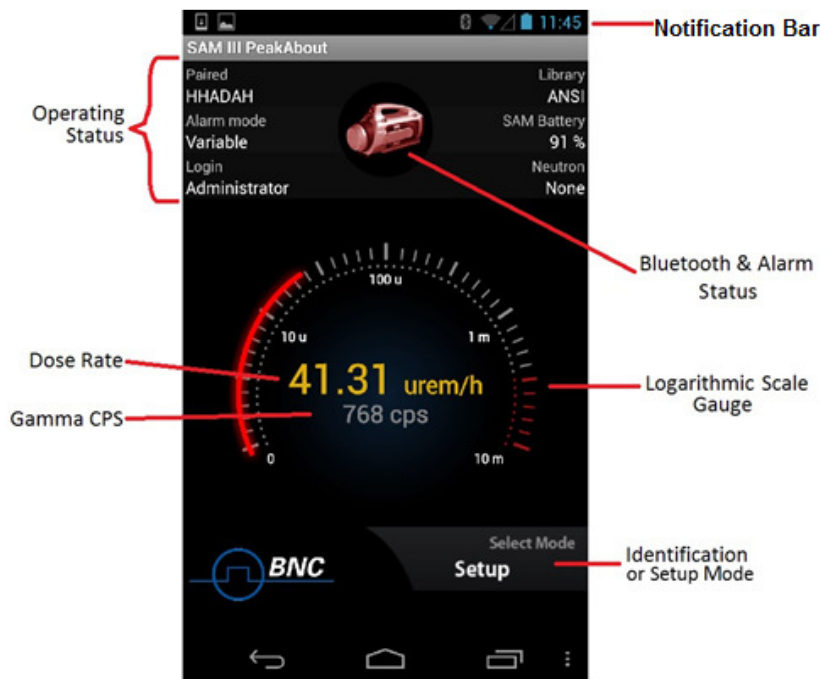

Figure 4.14. Radiation measurement example
1. On the home screen, touch the **Select Mode** area to the lower right of the gauge to enter Identification mode (Figure 4.14).